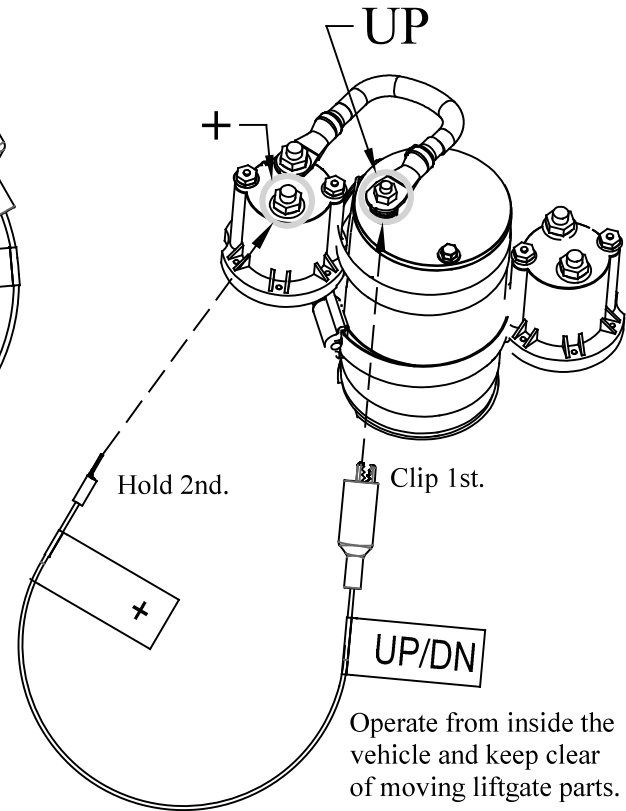

Figure 3: Raising the Liftgate
- To **Raise** the liftgate: **Clip** the liftgate jumper's "UP/DN" clip to the terminal with the thick (4awg) wire labeled "UP" (Figure 3). The liftgate will fold all the way up without stopping at bed height.